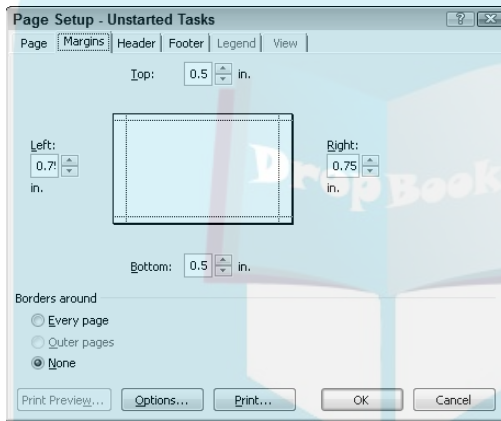

Figure 16-15:
- 1. Click the Margins tab, which is shown in Figure 16-15.**